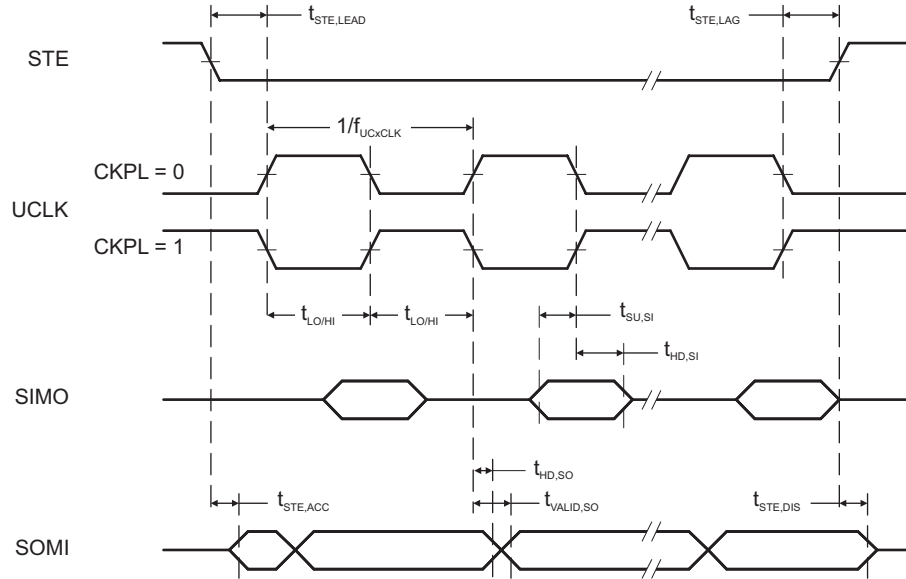
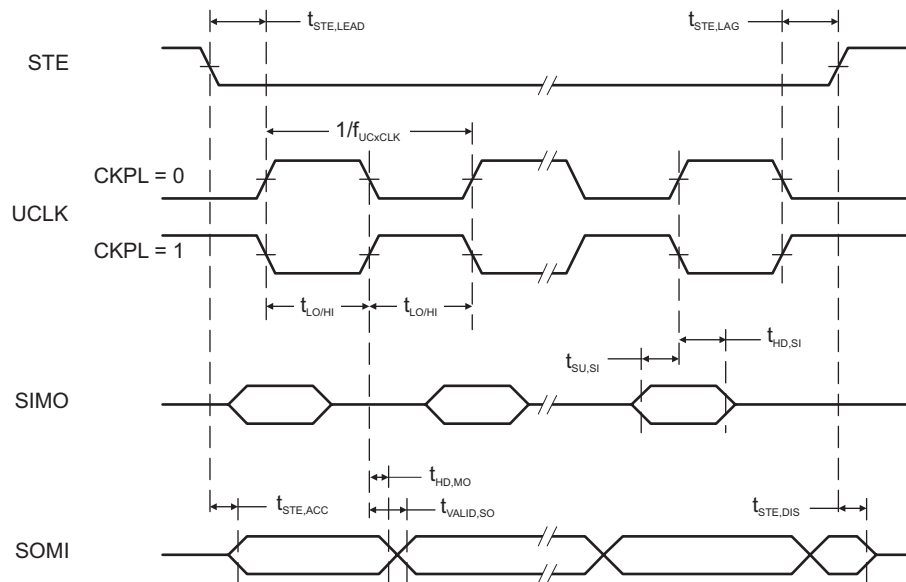

Figure 5-16. SPI Slave Mode, CKPH = 0
Figure 5-17. SPI Slave Mode, CKPH = 1
over recommended ranges of supply voltage and operating free-air temperature (unless otherwise noted)⁽¹⁾ (see Figure 5-16 and Figure 5-17)
(2) Specifies the time to drive the next valid data to the SOMI output after the output changing UCLK clock edge. See the timing diagrams in Figure 5-16 and Figure 5-17.
(3) Specifies how long data on the SOMI output is valid after the output changing UCLK clock edge. See the timing diagrams in Figure 5-16 and Figure 5-17.